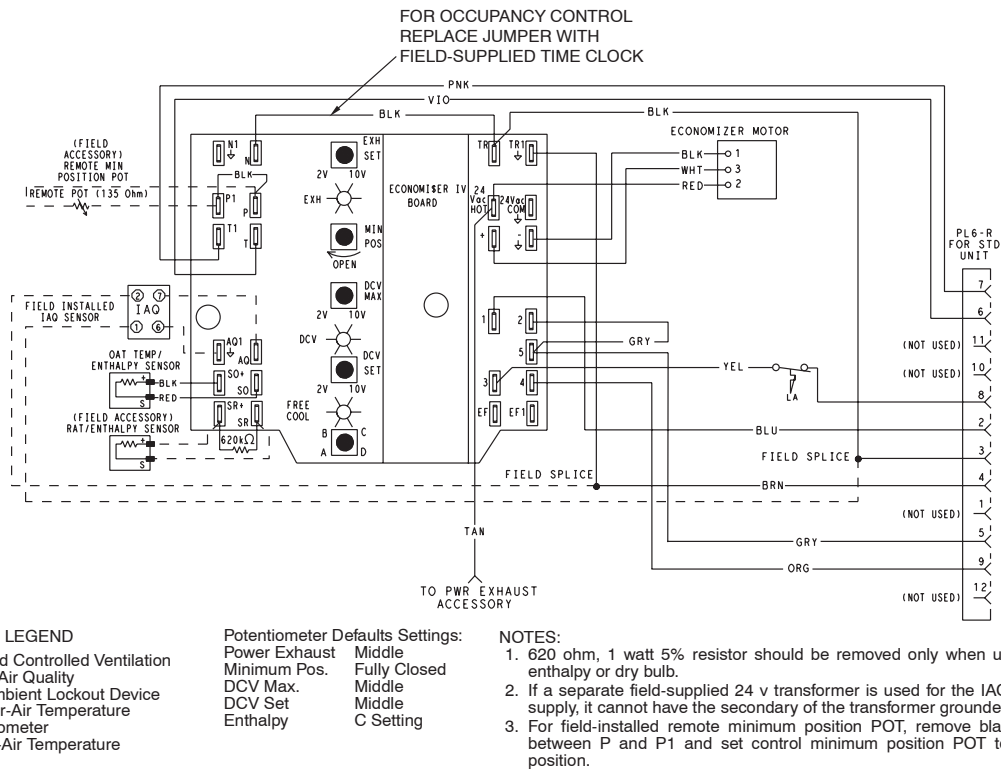
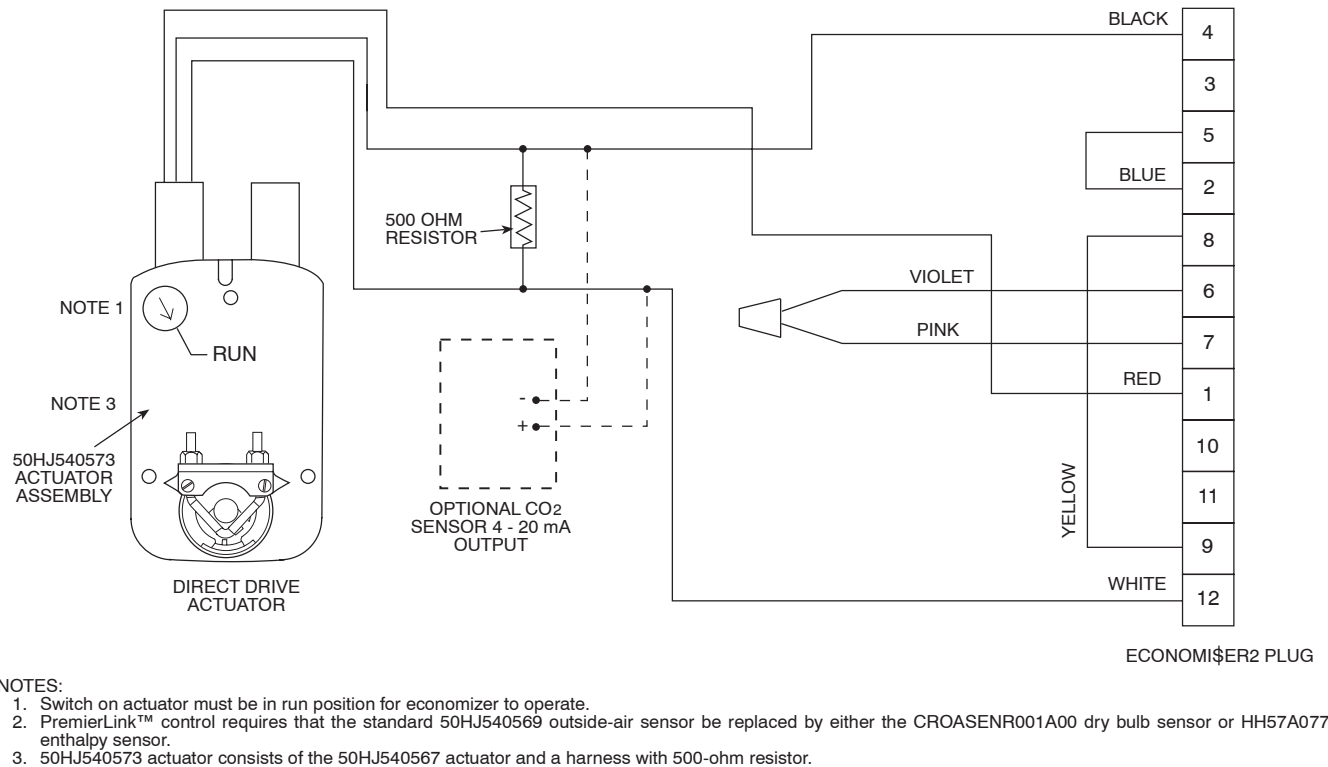

Fig. 29 – EconoMi\$er IV Wiring
Fig. 30 – EconoMi\$er2 with 4 to 20 mA Control Wiring
10. Install all EconoMi\$er IV accessories. EconoMi\$er IV wiring is shown in Fig. 29. EconoMi\$er2 wiring is shown in Fig. 30.
IMPORTANT: The optional EconoMi\$er2 does not include a controller. The EconoMi\$er2 is operated by a 4 to 20 mA signal from an existing field-supplied controller (such as PremierLink™ control). See Fig. 30 for wiring information.
For differential dry bulb control the standard outdoor dry bulb sensor is used in conjunction with an additional accessory dry bulb sensor (part number CRTEMPSN002A00). The accessory sensor must be mounted in the return airstream. (See Fig. 37.) Wiring is provided in the EconoMi\$er IV wiring harness. (See Fig. 29.)
Replace the standard outside air dry bulb temperature sensor with the accessory enthalpy sensor in the same mounting location. (See Fig. 22.) Mount the return air enthalpy sensor in the return air duct. (See Fig. 37.) Wiring is provided in the EconoMiSer IV wiring harness. (See Fig. 29.) The outdoor enthalpy changeover set point is set with the outdoor enthalpy set point potentiometer on the EconoMiSer IV controller. When using this mode of changeover control, turn the enthalpy setpoint potentiometer fully clockwise to the D setting.
3. Ensure that the factory-installed jumper is in place across terminals P and P1. If remote damper positioning is being used, make sure that the terminals are wired according to Fig. 29 and that the minimum position potentiometer is turned fully clockwise.